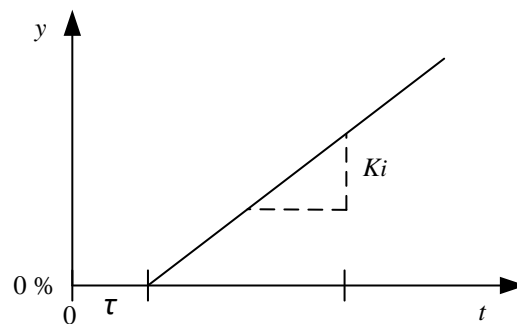

Figure 3: Problem 5: Unit-step response of integrator with time-delay.
- The unit-step response is shown in Figure 3.